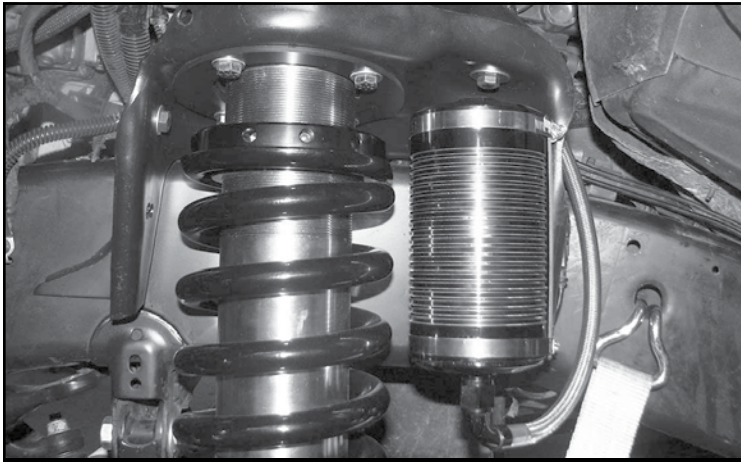

FIGURE 40 - STEP 25
25. Install the coilover Resi to the Resi mount using the supplied hose clamps. **SEE FIGURE 40**